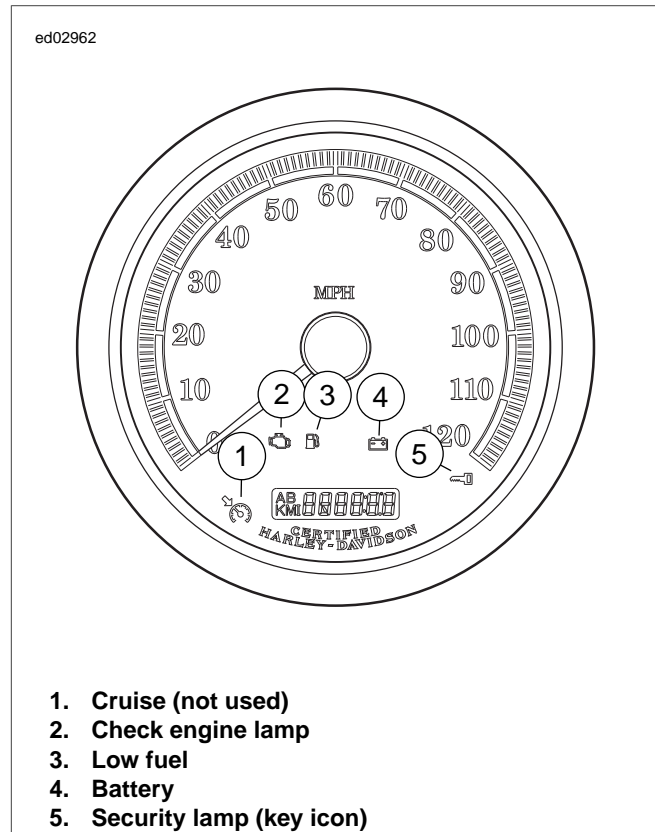

Figure 4-7. Speedometer
- For a quick check of speedometer function, a "WOW" test can be performed. Press and hold trip odometer reset switch then turn Ignition Switch to IGN. Release trip odometer reset switch. Figure 4-7. Background lighting should illuminate, speedometer needle should sweep its full range of motion, and indicator lamps (battery, security, low fuel, check engine and cruise) should illuminate. Some lamps may illuminate even though they do not apply to the vehicle. For example, the cruise lamp may illuminate although this feature does not apply to Softail models.